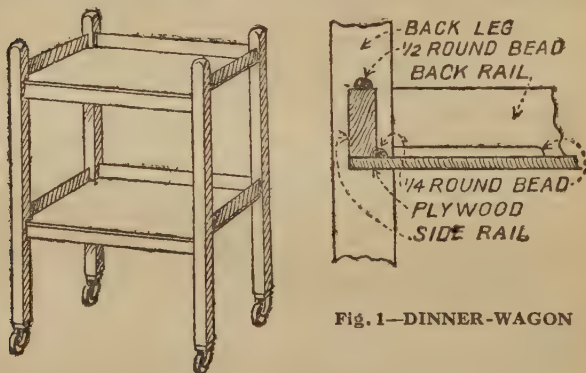

Fig. 1—DINNER-WAGON
The rack itself can be of deal. The two ends should be sawn out of  $\frac{3}{4}$ -in. stuff to the shape shown in Fig. 1. Measurements, of course, can be varied to suit the amateur's requirements, but some suggested dimensions are shown. Holes are bored at A, B and C to receive the ends of the rods, which are formed from curtain pole of  $1\frac{1}{8}$ -in. diameter. Should this be unobtainable, we can use straight-grained quartering, rounded with a smoothing plane and glass-paper to the necessary diameter; 8 ft. will be found a useful length. If wooden curtain-pole stuff is used it must be plain, unvarnished or uncoloured. For a very short clothes airer, such as might be intended to fit into a kitchenette, ordinary
**DINNER-WAGON.**—A service wagon is a welcome piece of furniture in any home and saves much running to and fro between kitchen and dining-room. The wagon shown in Fig. 1 is one of the easiest of jobs for